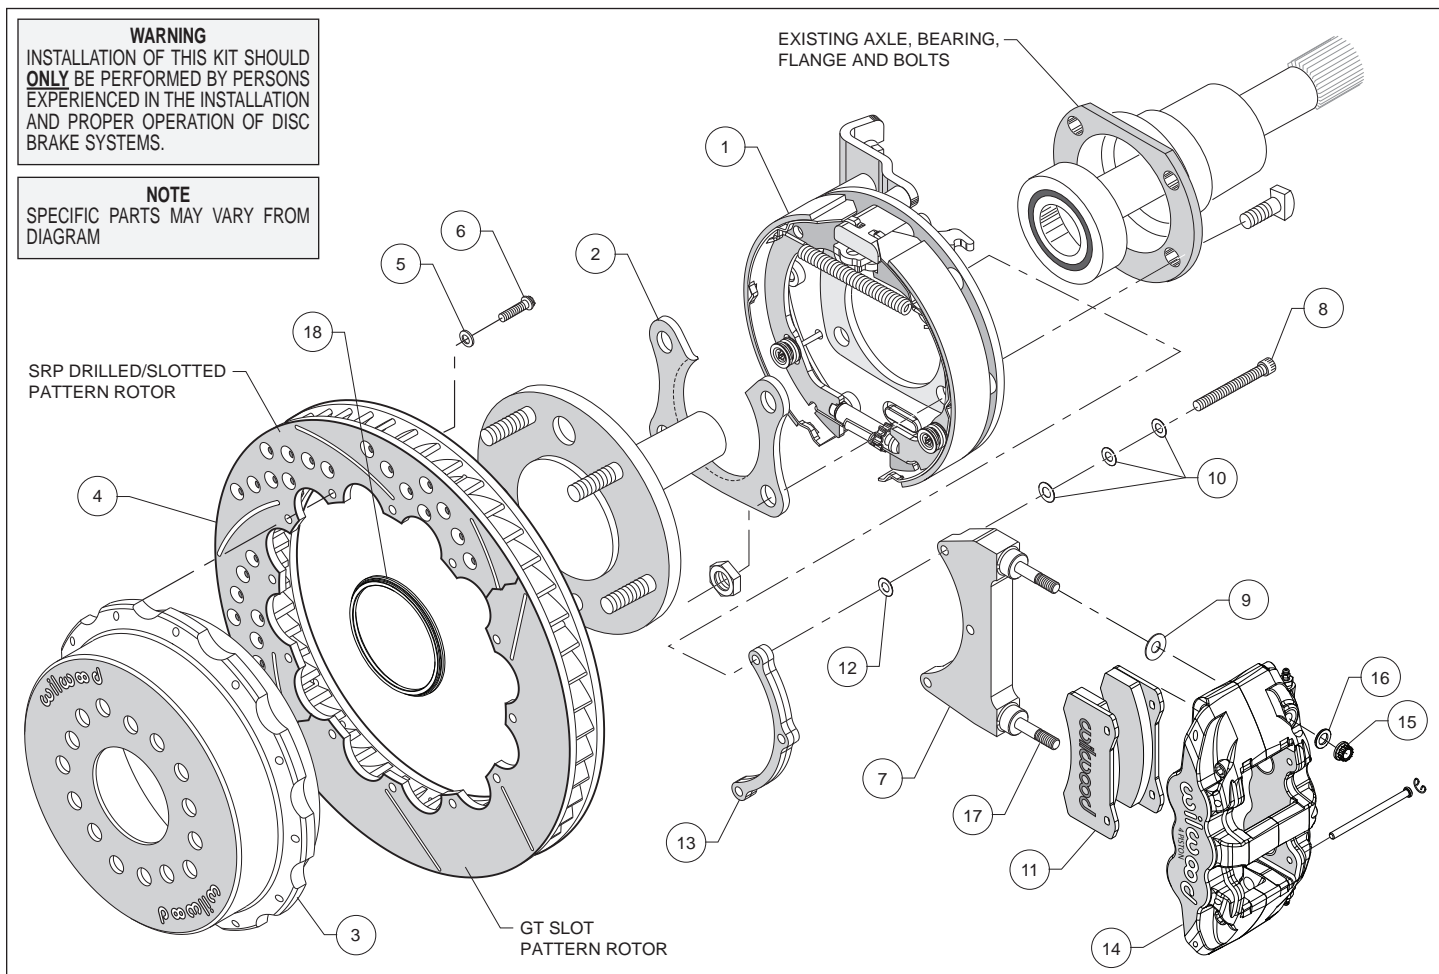

Figure 1. Typical Installation Configuration
- Orient the bracket assembly (1) as shown in Figure 1, and slide it onto the axle flange. Ensure that the bracket assembly backing plate fits flush against the housing flange. Insert the axle shaft into the axle housing.
- Install the bearing retainer (2) with the opening pointing upward and the lip facing inward (toward the bearing), as shown in Figures 1 and 4. Secure using the Original Equipment Manufacturer (OEM) bolts and nuts, Figure 1. Apply red *Loctite*® 271 to the OEM bolt threads and torque to OEM specifications.
- Slide the rotor registration adapter (18) onto the axle register on the axle flange with the smaller O.D. facing toward the rotor/hat (3). Align the correct hole pattern in the hat with the stud pattern on the axle flange. **NOTE:** Some OEM and aftermarket axles come with stud sizes larger than 0.50" diameter. Verify stud size and have a qualified machine shop drill the hats to the correct size, if necessary. Slide the hat/rotor assembly (3 and 4) over the wheel studs covering the bracket kit assembly (1) and against the axle flange face. Check to be sure the hat seats squarely against the hub. Install three lug nuts (finger tighten) to keep the rotor/hat assembly in place while continuing with the installation.
- **NOTE:** Please reference the caution statement at the beginning of the assembly instructions. The caliper mounting bracket assembly (7) should be installed first with clean, dry threads on the mounting bolts (8). Install the bracket from the rear side of the bracket kit assembly (1) by sliding bolt (8) through three flat washers (10), bracket (7), shim washer (12) and finally through the spacer (13), see Figure 1. **NOTE:** End of bolt should not exceed inside face of insert. The bracket must tighten squarely against the back side of the bracket kit assembly (1). Inspect for interference from casting irregularities, machining ridges, burrs, etc. Use one thin shim (12) between the bracket (7) and spacer (13) during initial trial fitting.
- Lubricate caliper mounting studs and nuts with lightweight oil. Install one shim (9) over each pre-installed stud (17) on the radial mount bracket (7). Slide the caliper (14) in place over the studs and rotor, then install the washer (16) and lock nut (15) to hold the caliper in place. The caliper bleed screws should be pointing up. Snug the lock nuts (15) and check that the rotor (4) is centered in the caliper (14). Add or subtract .015" shims (12) as necessary between the caliper mounting bracket (7) and the spacer (13) to center the caliper (9).
- Remove the two pad retaining pins from the caliper (14) by carefully popping out the pin retaining clips and sliding out the pins. Insert the brake pads (11) into the caliper from the bottom, Figure 1. With the friction material facing the rotor, secure the brake pads in place with the pad retaining pins and clips. Reinstall the caliper onto the caliper mounting bracket and temporarily tighten the lock nuts. Check that the top of the brake pad is flush with the outside diameter of the rotor. If not, adjust by adding or subtracting shims (9) between the caliper and the bracket.
- Adjust the parking brake shoes outward (using a drum shoe adjustment tool available at your local auto parts store) while spinning the hat (3) until a slight drag is felt against the hat/drum. Remove the lug nuts that were holding the hat/rotor in place. Install the wheel and lug nuts. Check to see that the wheel rotates freely without interference.
- Once all clearances have been checked, remove the wheel, caliper, hat/rotor from the bracket kit assembly (1). Secure the caliper mounting bracket (7) to the bracket kit assembly (1) using red *Loctite*® 271. Torque bolts (8) to 180 in-lb. Reinstall the hat/rotor assembly and again use lug nuts to hold it in place. Reinstall the caliper, torque the caliper nuts (15) to 47 ft-lb.
- **NOTE:** Clevis and cable kits which attach to the parking brake assembly are not included in the Wilwood parking brake kit. Wilwood offers a generic style parking brake cable kit, P/N 330-9371 for this application which can be ordered separately from your local Wilwood dealer or by calling Wilwood customer service at (805) 388-1188.